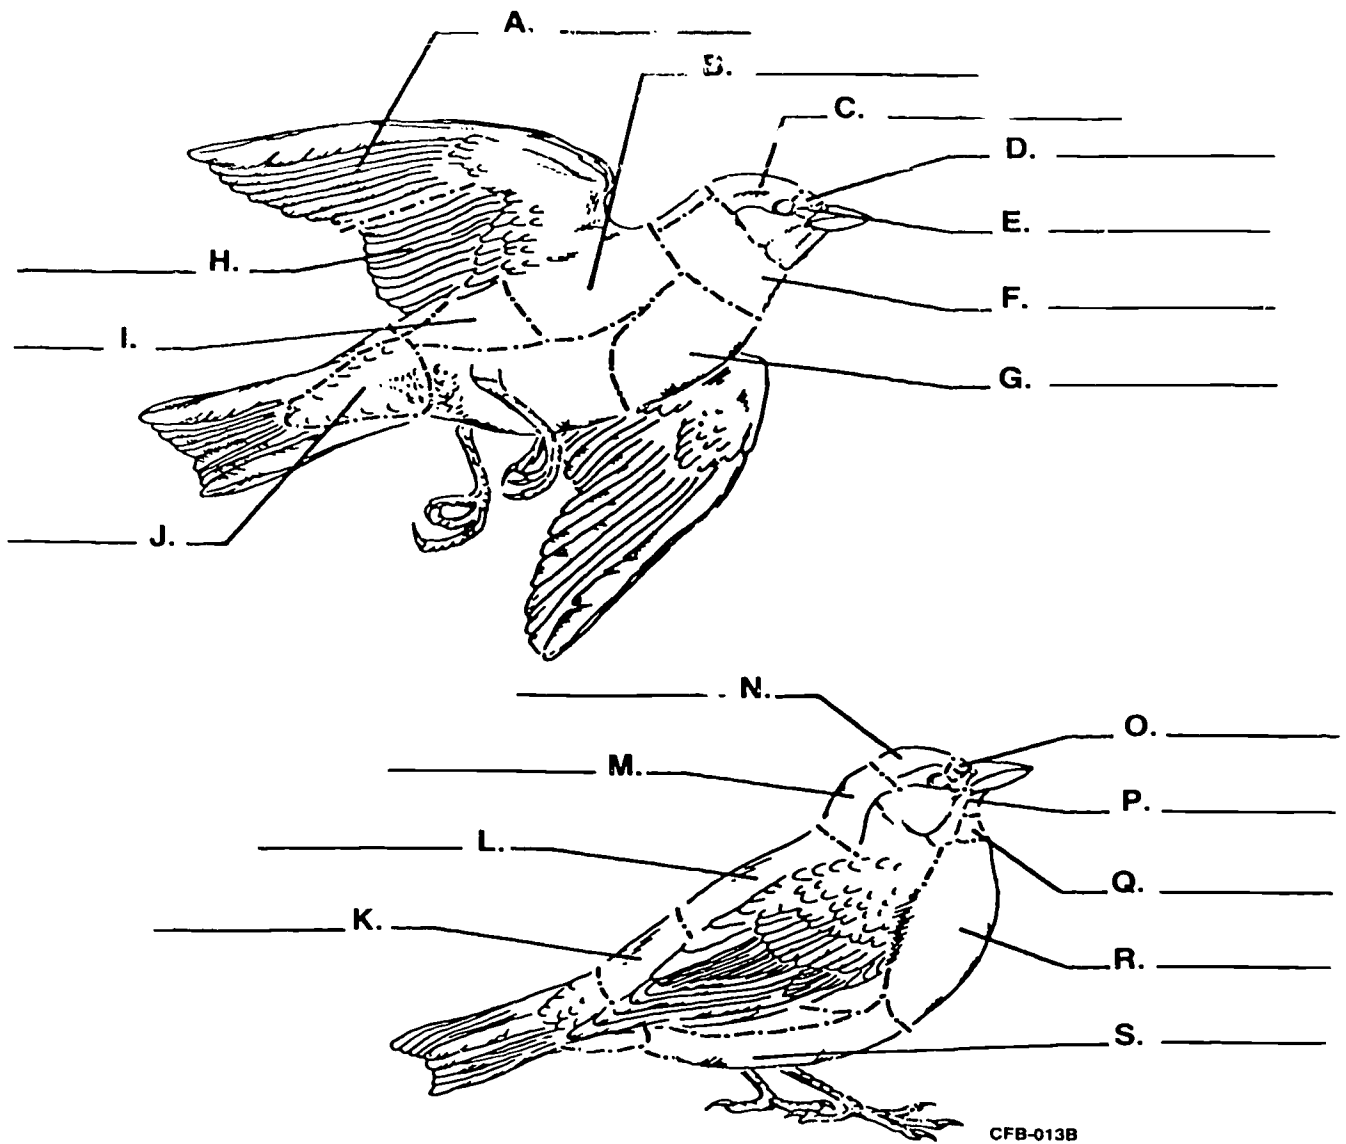

Figure 2-4. Objective A14, exercise 1.
1. On figure 2-4, label each topographical feature.